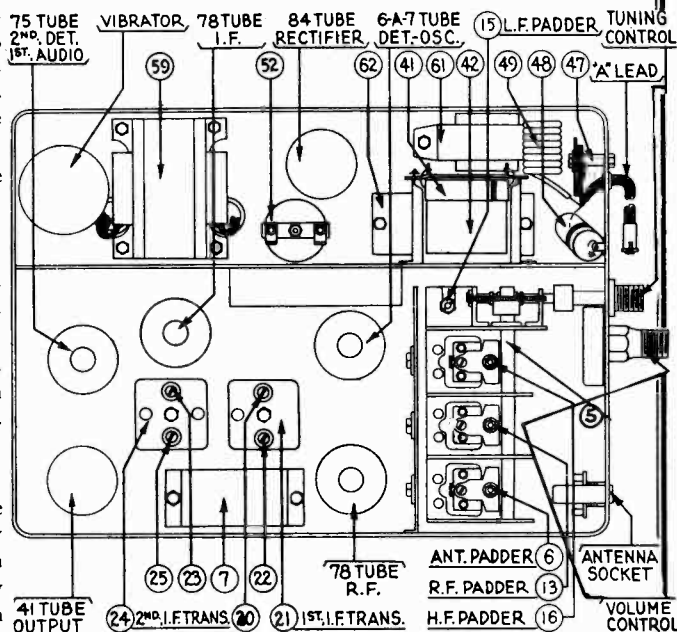

FIGURE 6
Both the primary and the secondary padders are placed side by side in the top of the transformer shield can. The adjusting screws are accessible thru the holes in the top of the shield. (See Figure 6).
Adjust the secondary screw padder (25) on the second I. F. transformer for maximum reading on the output meter. Then adjust the primary screw padder (23) for maximum reading. (See Figure 6 for location of padders).
Connect the generator lead to the grid cap of the 6A7 tube in series with a .1 mfd. condenser. adjust the secondary screw padder (2) on the first I. F. transformer for maximum reading on the output meter. Then adjust the primary screw padder (20) for maximum reading. (See Figure 6 for location of padders).